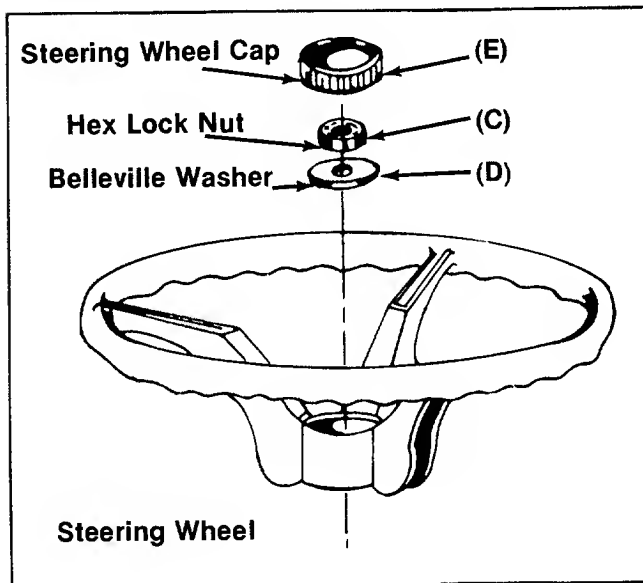

FIGURE 2.
3. Secure with Belleville washer (D) and hex lock nut (C). See figure 2.
4. Press the steering wheel cap (E) on the steering wheel by hand. See figure 2.